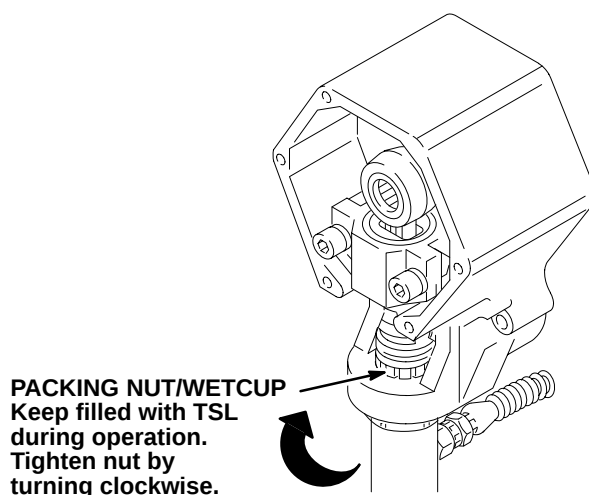

Fig 5
- Check the packing nut/wet-cup daily.** Relieve pressure. Keep the wet-cup 1/3 full of Throat Seal Liquid to help prevent fluid build-up on the piston rod and premature wear of packings. Tighten the packing just enough to stop leakage. Overtightening may cause binding and excessive packing wear. See Fig 5.